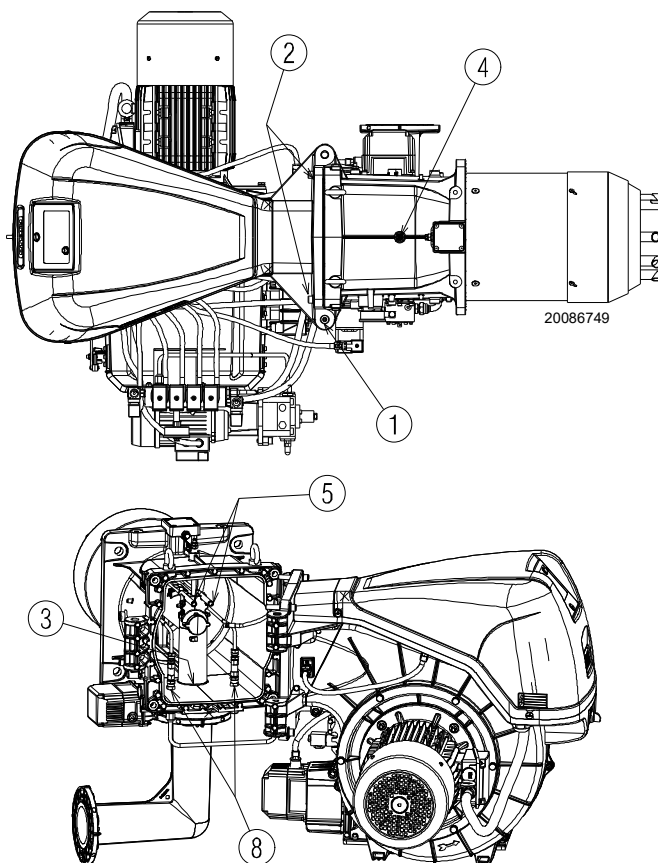

Fig. 16
The burner leaves the factory set for opening to the right, therefore maintaining the pin 1)(Fig. 16) in its housing.
- C** fully open the burner as in Fig. 16;
To open the burner from the opposite side, before removing the pin 1)(Fig. 16), make sure that the 4 screws 2) are tight. Then shift the pin 1) to the opposite side, only then is it possible to remove the screws 2). Disconnect the socket 9)(Fig. 16) of the maximum gas pressure switch, then proceed as described above at point **C**).